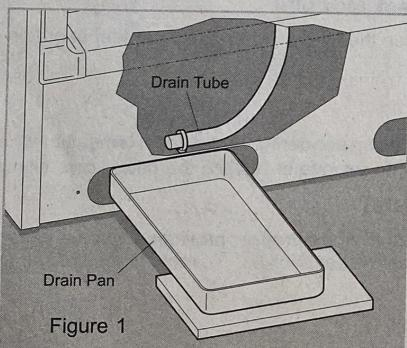

Figure 1
- On upright models with a defrost drain (Figure 1), remove drain plug on the inside floor of the freezer by pulling straight out. To access external drain tube on models with a base panel, first remove the two screws from the base panel. Locate the drain tube near the left center under the freezer. Place a shallow pan under the drain tube. Defrost water will drain out. Check pan occasionally so water does not overflow. A  $\frac{1}{2}$  inch garden hose adapter can be used to drain the freezer directly into a floor drain. If your model is not equipped with an adapter, one can be purchased at most hardware stores. Replace the drain plug when defrosting and cleaning are completed. If the drain is left open, warm air may enter freezer.